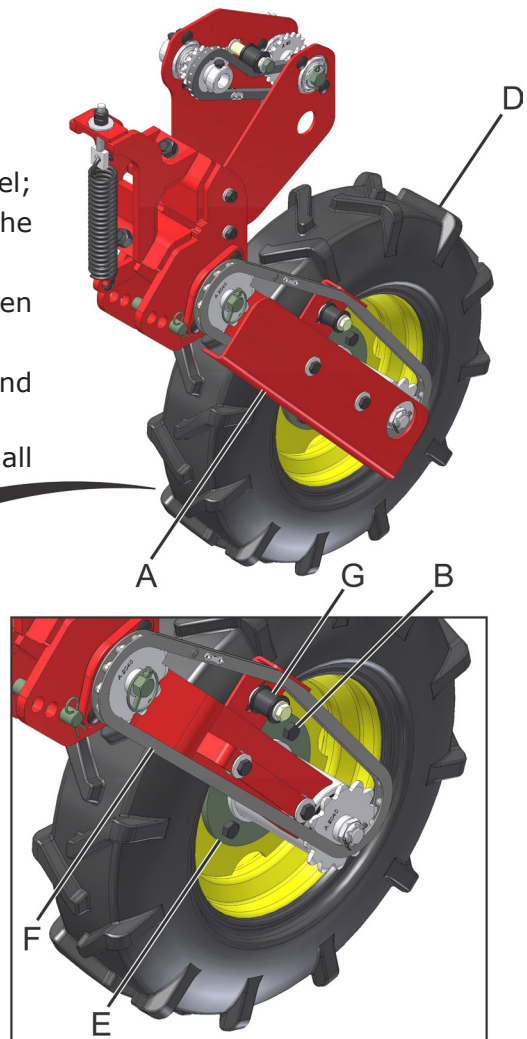

fig. 31
- 2- Remove the safeguard (A) (fig. 31) on the left hand side wheel;
- 3- Loosen the bolts (B) (fig. 31) and nuts (C) which attach the wheel (D) to the hub (E);
- 4- Remove chain (F) (fig. 31) of the transmission wheel. Then also remove its tensor (G);
- 5- Suspend the seeder by removing the bolts (B), nuts (C) and the wheel (D);